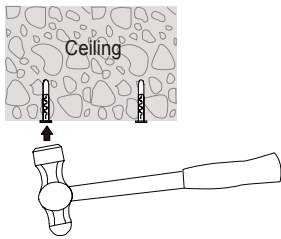

Fig.9
- Step5 Knock the plastic expansion screw into the hole which you drill (as Fig.9)